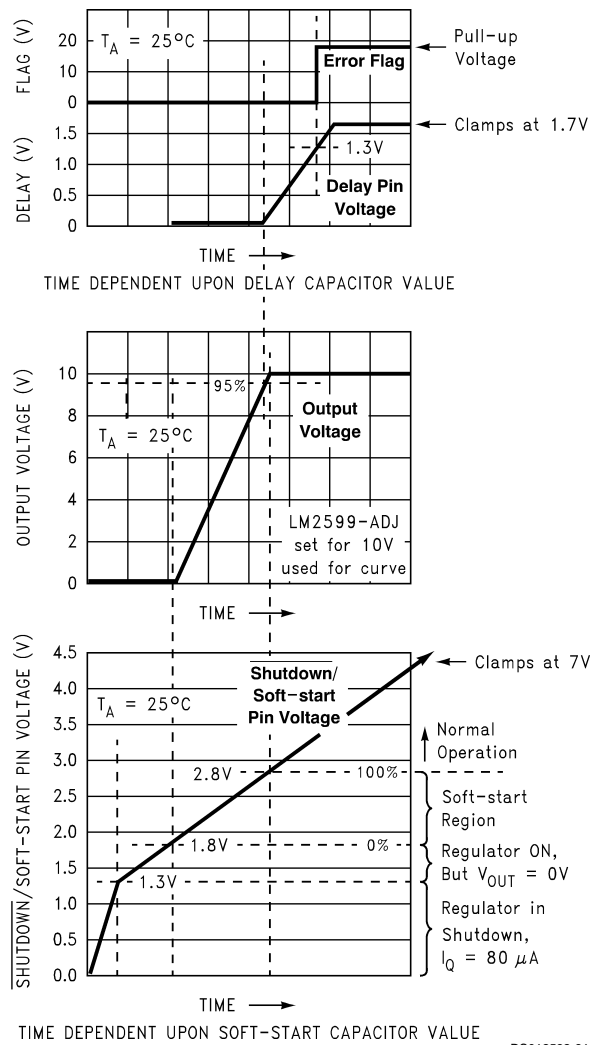
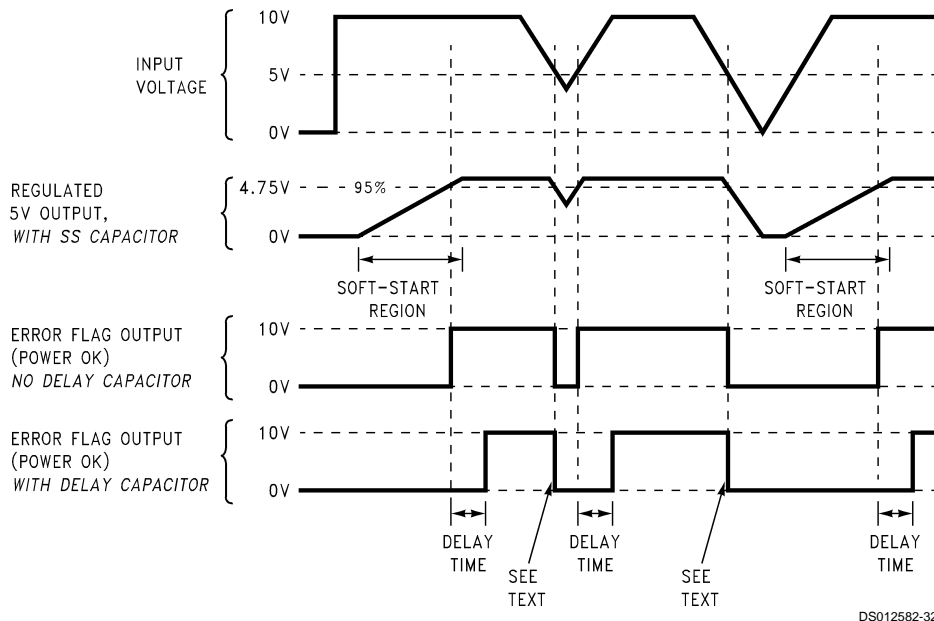

FIGURE 13. Soft-start, Delay, Error, Output
FIGURE 14. Timing Diagram for 5V Output
C_{SS} —A capacitor on this pin provides the regulator with a Soft-start feature (slow start-up). When the DC input voltage is first applied to the regulator, or when the Shutdown /Soft-start pin is allowed to go high, a constant current (approximately $5 \mu A$ begins charging this capacitor). As the capacitor voltage rises, the regulator goes through four operating regions (See the bottom curve in Figure 13).
3. Soft-start Region. When the \overline{SD} /SS pin voltage is between 1.8V and 2.8V (@ 25°C), the regulator is in a Soft-start condition. The switch (Pin 2) duty cycle initially starts out very low, with narrow pulses and gradually get wider as the capacitor \overline{SD} /SS pin ramps up towards 2.8V. As the duty cycle increases, the output voltage also increases at a controlled ramp up. See the center curve in Figure 13. The input supply current requirement also starts out at a low level for
Note: The lower curve shown in Figure 13 shows the Soft-start region from 0% to 100%. This is not the duty cycle percentage, but the output voltage percentage. Also, the Soft-start voltage range has a negative temperature coefficient associated with it. See the Soft-start curve in the electrical characteristics section.
C_{DELAY} — Provides delay for the error flag output. See the upper curve in *Figure 13*, and also refer to timing diagrams in *Figure 14*. A capacitor on this pin provides a time delay between the time the regulated output voltage (when it is increasing in value) reaches 95% of the nominal output voltage, and the time the error flag output goes high. A 3 μ A constant current from the delay pin charges the delay capacitor resulting in a voltage ramp. When this voltage reaches a threshold of approximately 1.3V, the open collector error flag output (or power OK) goes high. This signal can be used to indicate that the regulated output has reached the correct voltage and has stabilized.